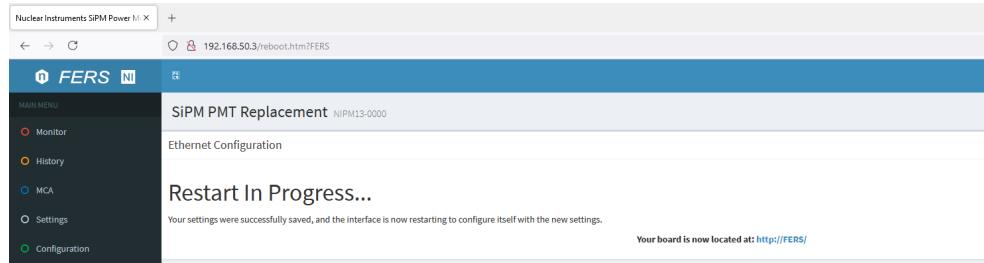

Fig. 3.18: Displayed message once the IP address of the board has been correctly changed.
4. Press on the Save and Restart button in the bottom part of the Tab, a message like that shown in **Fig. 3.18** will be displayed. The A5202/DT5202 board has been assigned with the selected IP address.